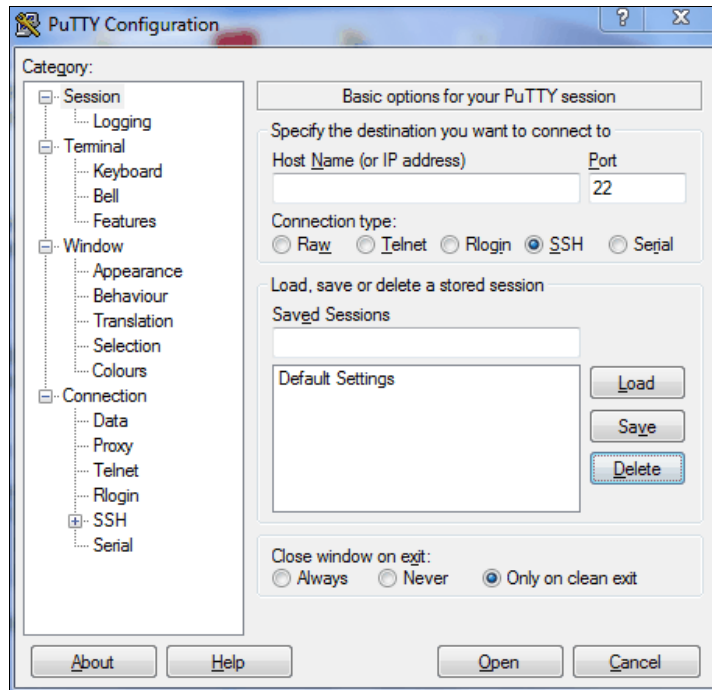

Figure A-10 PuTTY
1. Start PuTTY, as shown in Figure A-10.
- From the Category pane on the left side of the PuTTY Configuration window, click **Session** to return to the Session view, as shown in Figure A-10 on page 616.